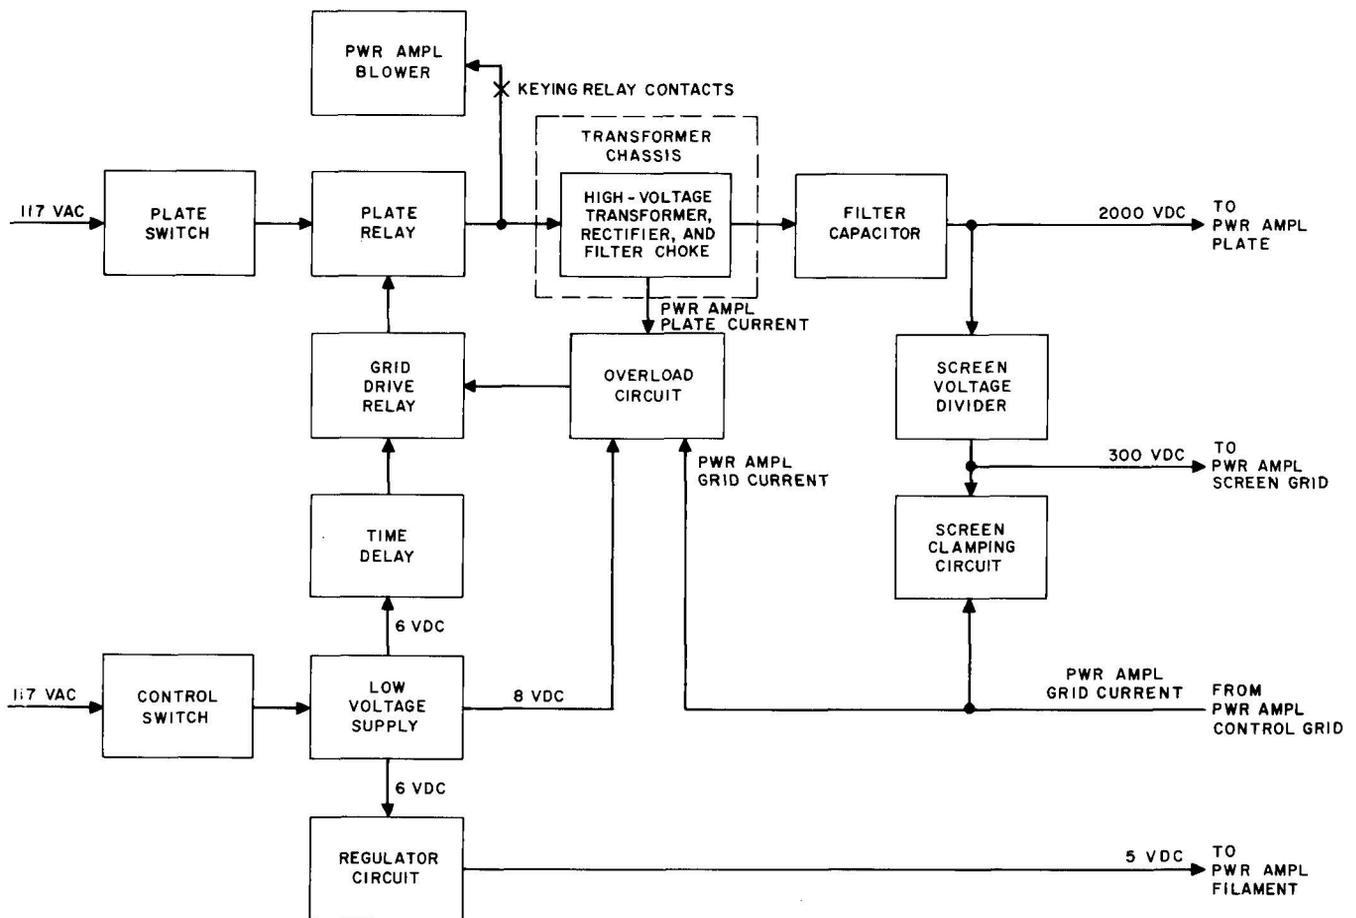

Fig. 8—PA Power Supply—Block Diagram
3.44 A block diagram of the PA power supply is shown in Fig. 8. The PA power supply is